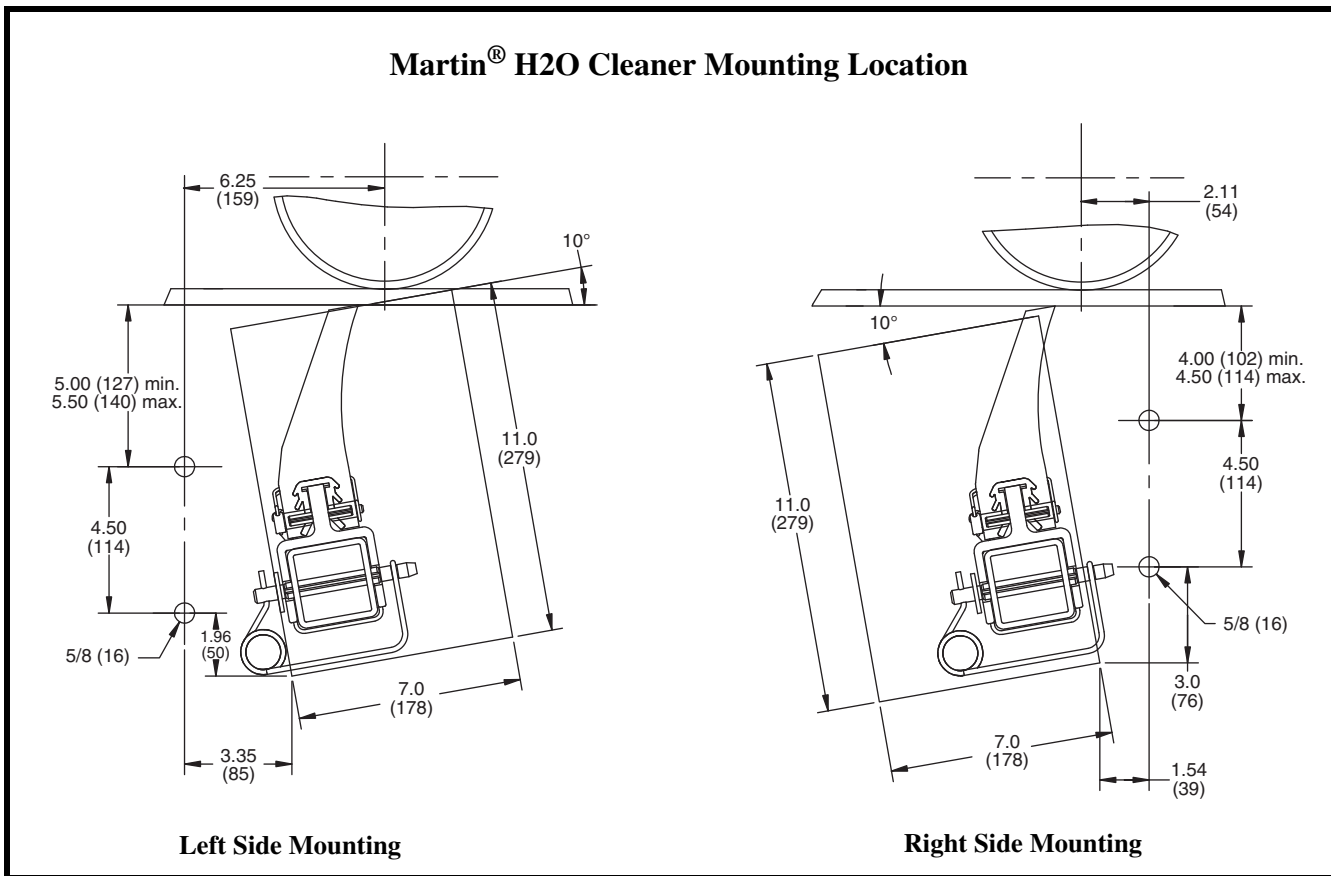

Figure 1. Mounting Locations
1. Mark the chute cutout and mount hole locations as shown in Figure 1. Repeat on both sides of chute, ensuring cutouts are accurately aligned with each other.
1. Slide blade onto mainframe with blade positioned as shown in Figure 1. Push far side end of blade against stationary pin until it locks.